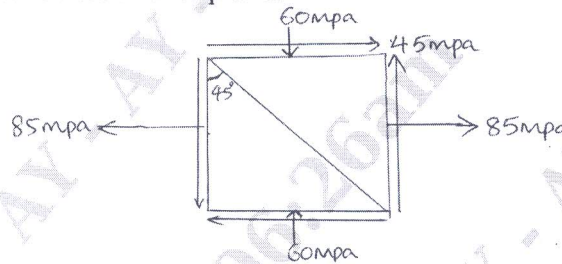

Fig. Q1 (b)
- b. A point in a structural member is subjected to plane stress shown in Fig. Q1 (b). Determine the following: